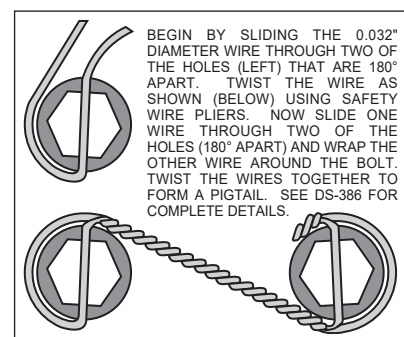

Figure 3. Safety Wire Diagram
- With the larger I.D. side of the rotor (6) facing away from the hat (7), bolt rotor (6) to hat (7) through the backside of the rotor using washers (8), and bolts (9). -Using an alternating sequence, apply red *Loctite*® 271 to the threads and torque bolts to 155 in-lb. For an added measure of security, the bolts may be safety wired using standard 0.032 inch diameter stainless steel safety wire as shown in Figure 3. Please refer to Wilwood's data sheet DS-386 (available at www.wilwood.com/Pdf/DataSheets/ds386.pdf) for complete safety wire installation instructions.
- Slide the brake pads (15) up into the caliper (10) from the bottom until the "v" spring clip snaps into place against the anvil. They should install easily without interference.
- Lubricate caliper mounting studs and nuts with lightweight oil. Install two shims (14) over each stud (13) on the radial mount bracket (1). Slide the caliper (10) in place over the studs and rotor and install the washer (12) and lock nut (11) to hold the caliper in place. The caliper bleed screw should be pointing toward the front of the vehicle. Snug the lock nuts (11) and check that the caliper (10) is centered over the rotor (6). Add or subtract .016" shims (4) and/or .035" shims (5) as necessary between the caliper mounting bracket (1) and the spindle face to center the caliper (10) on the rotor (6).
- Check that the outside radius of the brake pad (15) is aligned with the outside diameter radius of the rotor face. Add or subtract shims (14) between the caliper (10) and the caliper mounting bracket (1) to gain the proper alignment.
- Once all clearances have been checked, remove the wheel, caliper and rotor from the axle flange. Secure the caliper mounting bracket (1) to the spindle face while applying red *Loctite*® 271 on the bolt threads (2). Torque the bolts (2) to 22 ft-lbs. Reinstall the rotor and again use several lug nuts to hold it in place being sure to align the small countersunk holes in the hat (7) with the corresponding holes in the hub. Reinstall the caliper, torque the caliper nuts (11) to 30 ft-lbs.